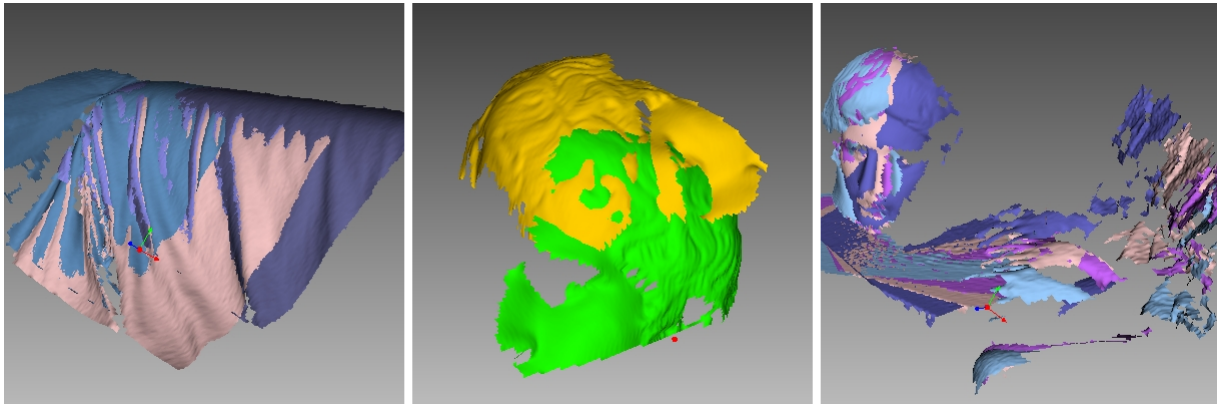

Figure 116: Possible scan errors.
- Misaligned frames (see Figure 116, left)—may occur because of small size, an insufficient number of geometrical features on the object or an insufficient number of polygons in a frame.
- Misaligned parts (see Figure 116, middle)—occurs when the real-time alignment algorithm incorrectly determines the position of the new frame relative to previous ones.
- Unwanted objects in the frame (see Figure 116, right).